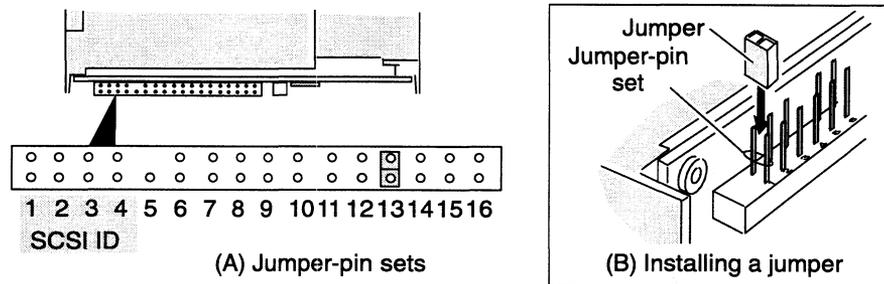

Figure 2 Jumper settings when the drive is installed in an AViiON 6966 mass-storage subsystem
1. For an AViiON 6966 mass-storage subsystem, install a jumper on jumper-pin set 13 (Figure 2).